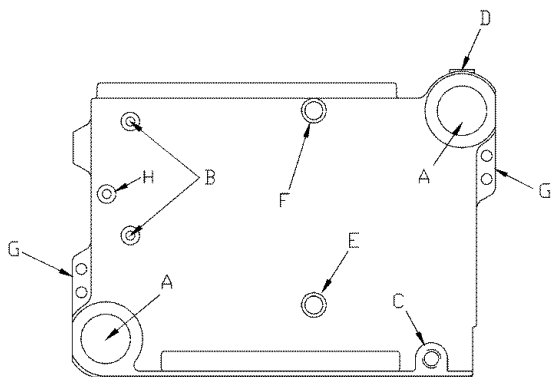
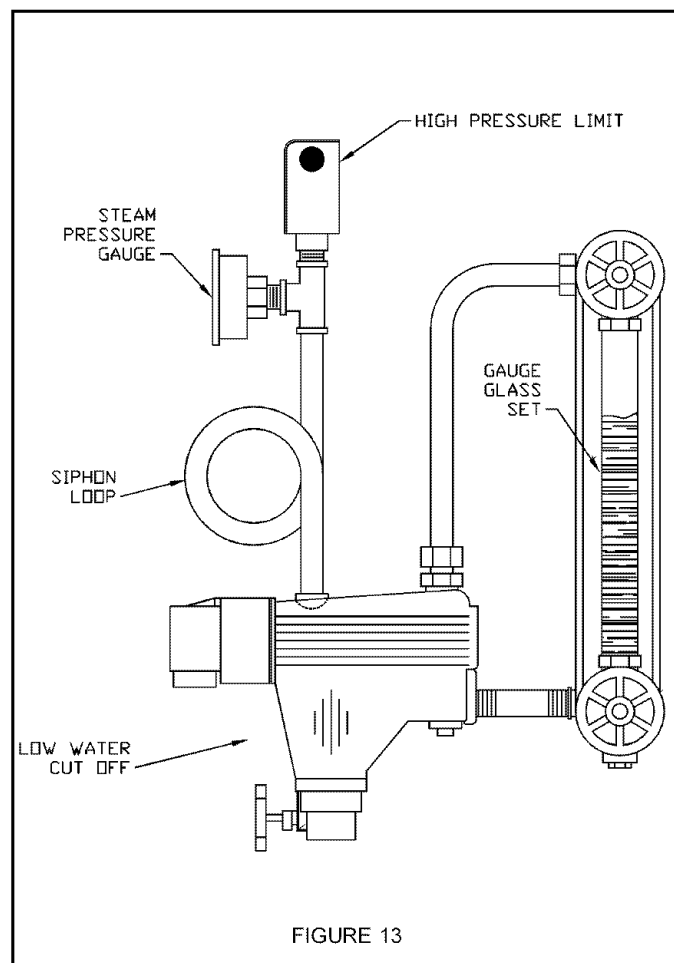

FIGURE 12
FIGURE 13
Assemble Steam Trim, Low Water Cut-Off, High Pressure Limit Control, Pressure Gauge, Water Gauge Glass Set and Siphon Loop, as shown in **FIGURE 13**. See **FIGURE 12** for location of controls.
Locate Water Trim Controls per Chart in **FIGURE 12**.
*If opening F shown in **FIGURE 12** is to be used for something other than the Pop Safety Valve or Pressure Relief Valve, or the Safety/Relief valve is larger than 1", the Safety/Relief Valve must be installed in the Header Piping as near the boiler as possible.